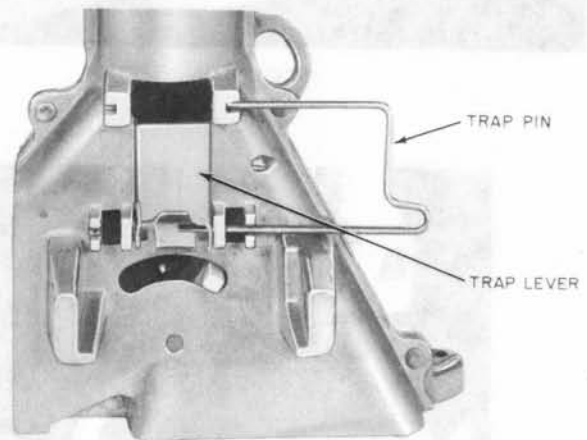

Fig. 61—Placing Trap Lever Pin on Hopper
- (1) Insert the trap pin partially into the hole in the hopper shown in Fig. 61 and place the trap lever on the trap pin.